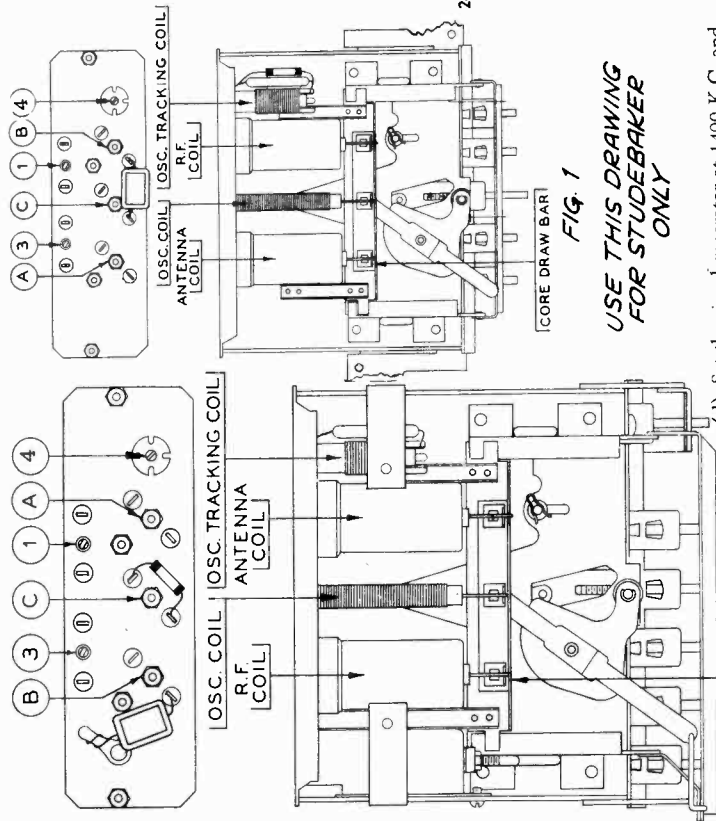

FIG. 1
- (b) Set up the signal generator to 1600 K.C. and adjust padder (1) (see Fig. 1) for maximum signal. **(3) FOR PACKARD**
- (c) Adjust the signal generator to 1400 K.C. and set the tuning control at 1400 K.C. Adjust the coil form by turning the mounting nut (B) until maximum signal is obtained. In case a peak cannot be obtained, it may be necessary to unsolder the piano wire and move the core slightly, either in or out.
- (a) Set the signal generator to 600 K.C. and the tuning control at 600 K.C. Adjust screw (4) (see Fig. 1) for maximum signal. Rock the tuning control while making this adjustment. Tune the control to the signal and adjust the screw for maximum output. Rotate the tuning control back and forth slightly until maximum output is obtained. Then readjust the screw until no further improvement is noticed.
- (b) Check and readjust the aerial compensator (2) in the radio, and padders (1), (2), and (4) as described in 1.
- (b) Set up the signal generator to 1600 K.C. and adjust padder (3) (see Fig. 1) for maximum signal. **(1) FOR PACKARD**
- (d) Set the signal generator at 1400 K.C. and tune the manual control to 1400 K.C. Adjust the R.F. and antenna coil for maximum signal by turning the mounting nuts (A) and (B).
- (f) Set the signal generator at 600 K.C. and the tuning control at 600 K.C. Adjust the screw (4) (see Fig. 1) for maximum signal. Rock the tuning control when making this adjustment. Tune the control to the signal and adjust the screw for maximum output. Rotate the tuning control back and forth slightly until maximum output is obtained. Then readjust the screw until no further improvement is noticed.
- (b) Turn the tuning control knob clockwise as far as it will go so that the cores will be in the extreme "out" position. Set the signal generator to 1600 K.C. and adjust padder (3) (Fig. 1) for maximum signal. **(1) FOR PACKARD**
- (c) Adjust padder (2) aerial compensator in radio and padder (1) (see Fig. 1) for maximum signal. **(3) FOR PACKARD**